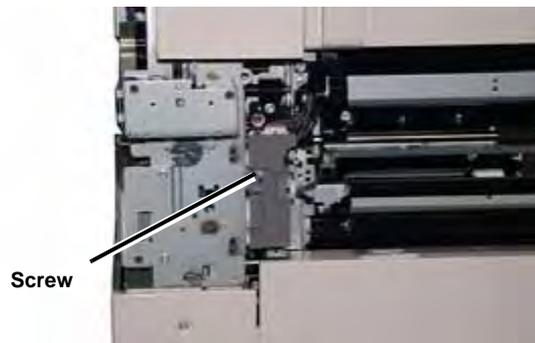

Figure 2 Removing Screw
5. Remove the harness cover (1 Screw) (Figure 2).